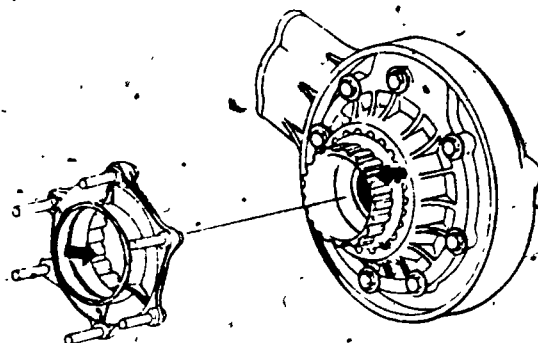

FIGURE 4
- O. Lubricate ring gear drive splines (Figure 4)